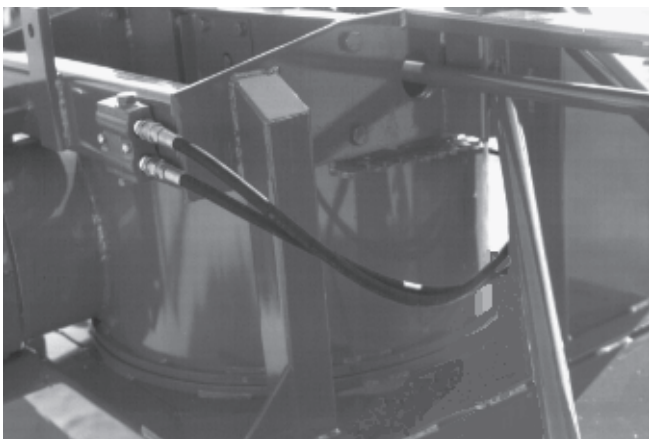

Figure 21
- 6) It is important that the cushion valve furnished be installed. Cushion valve has been pre set in plant at 1600 psi. (Fig. 21).